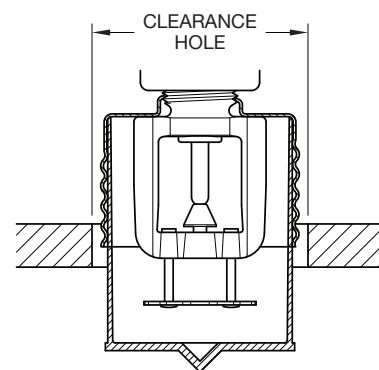

FIGURE 4
Step 5. Replace the Protective Cap by pushing it upwards until it bottoms out against the Support Cup. (Refer to Figure 4.) The Protective Cap helps prevent damage to the Deflector and Arms during ceiling installation and/or finish. You can also use the Protective Cap to locate the center of the clearance hole by gently pushing the ceiling material up against the center point of the Protective Cap.